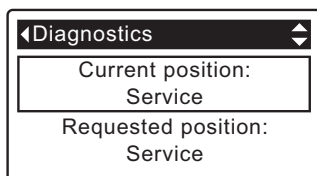

FIG. 99
4. Press the UP (▲) button to scroll through the list until **Current position** is displayed (See Figure 99).